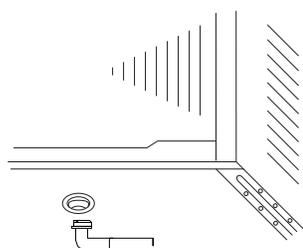

Fig.2
6. Use flexible plastic pipe (purchased locally) for condensation water run-off to a desired spot. This pipe ,with an internal diameter of 16mm, must be firmly connected to the unit's drain pipe using an adjustable clamp. (Fig. 2)